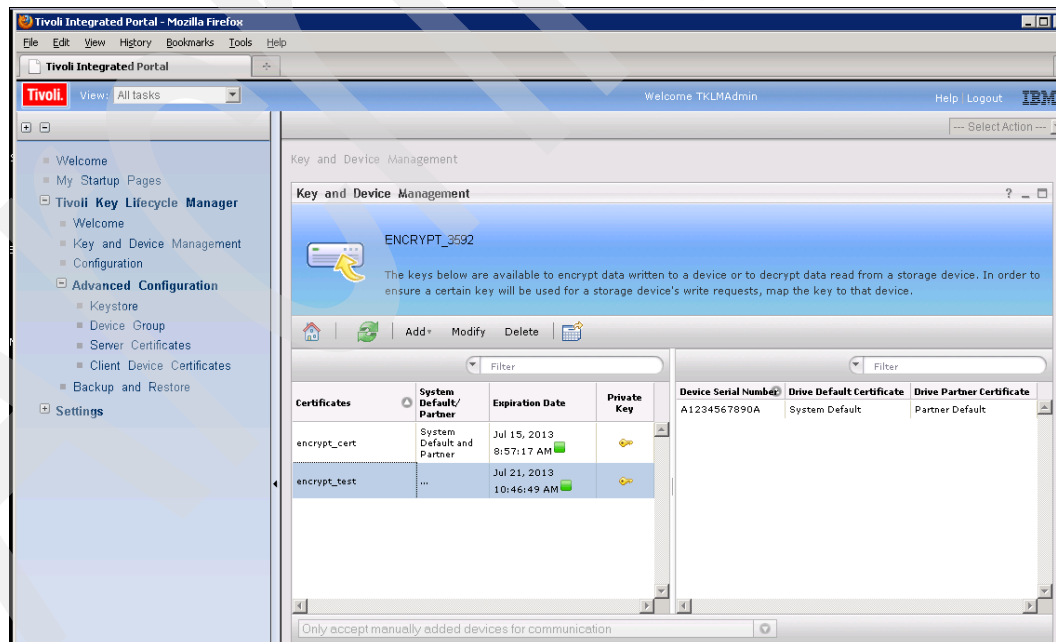

Figure 9-63 Selected 3592 certificate to be deleted
3. Highlight the 3592 certificate to be deleted and click **Delete** (Figure 9-63).